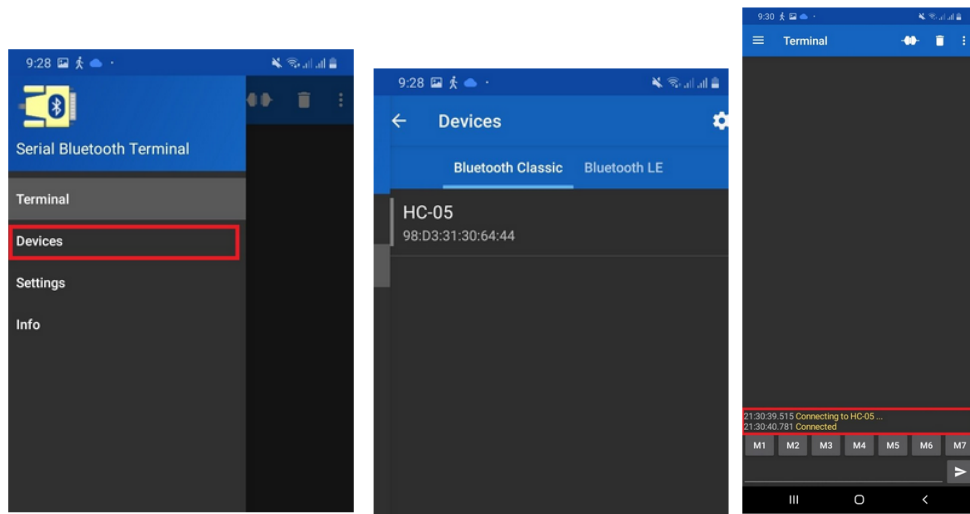

Figure 3: Steps for Serial Bluetooth Terminal App
In order to establish Bluetooth communication between TivaC and Android device, we will use a android application named "Serial Bluetooth Terminal", freely available on Play Store app. You are required to download and install that application. Once the application would be downloaded, and our HC-05 connections are made with TivaC in Task 01 below, we will follow the steps shown in Fig. 3 to send and receive commands over Serial monitor of the app and the Energia.
- Connect your mobile device with Bluetooth module using steps given in Fig. 3 with password "1234" or "0000". The Bluetooth device name is mentioned on module itself.